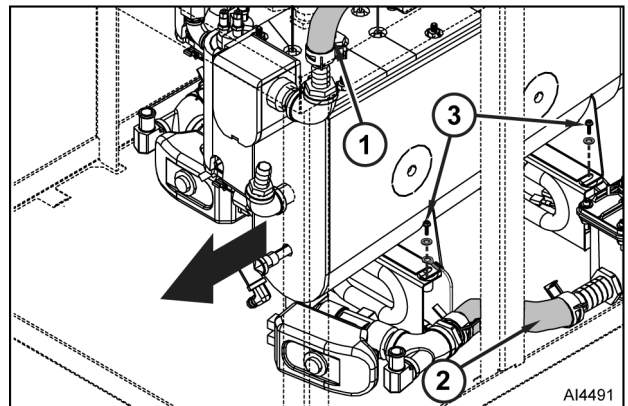

Fig. 24
- Disconnect steam hose (1, Fig. 24) from generator tank.
- Disconnect drain hose (2) from drain box.
- Loosen / remove bolts and washers (3) that secure steam generator to mounting brackets.